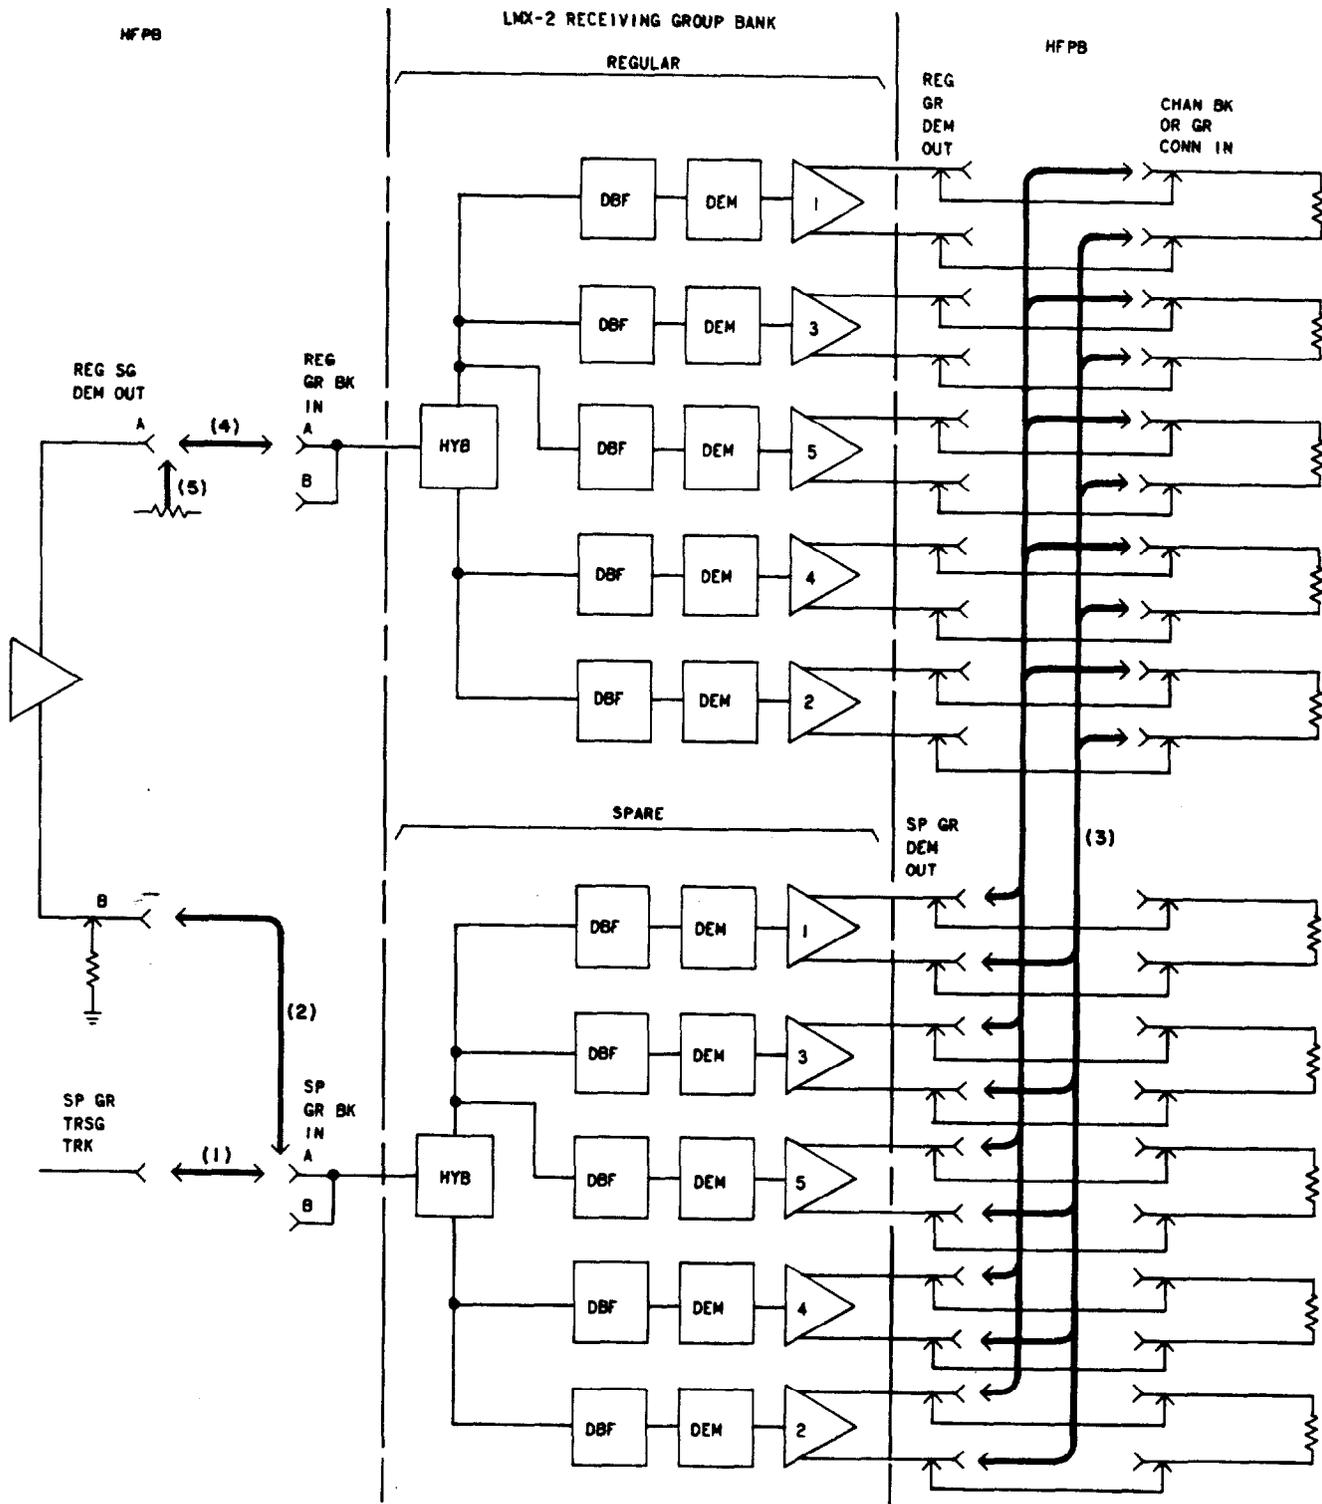
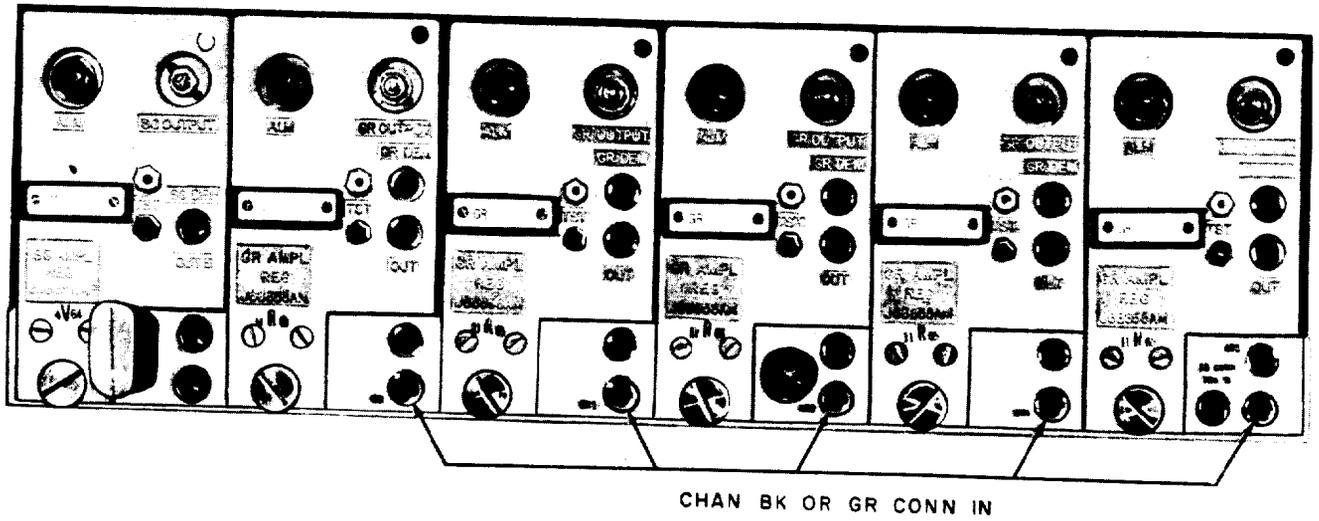

Fig. 2—Removing Regular Receiving Group Bank from Service
Fig. 3—Receiving Supergroup and Group Bank Amplifiers
Removing Regular Group Bank From Service (Fig. 2)
- (a) Remove the patch between the SP GR TRSG TRK and SP GR BK IN A jacks [patch (1), Fig. 2]. (A major alarm occurs on SP GR BK because group pilots are removed.)
- (b) Connect the REG SG DEM OUT B jack to the SP GR BK IN A jack [patch (2), Fig. 2].
- (a) Connect the SP GR DEM OUT jacks to the associated CHAN BK or GR CONN IN jack for group 1 [patch (3), Fig. 2]. (See Fig. 3 for undesignated jack location.)
- (a) Remove the patch between the REG SG DEM OUT A and REG GR BK IN A jacks [patch (4), Fig. 2]. (A major alarm will occur on each REG working group.)
- (c) Terminate, into 75 ohms, the REG SG DEM OUT A jack [patch (5), Fig. 2].
Restoring Regular Group Bank To Service (Fig. 3)
- (a) Remove the 75-ohm termination from the REG SG DEM OUT A jack [patch (5), Fig. 2].
- (b) Connect the REG SG DEM OUT A jack to the REG GR BK IN A jack [patch (4), Fig. 2].
Note: Read each step completely. (See Fig. 3 for undesignated jack location.)
| | <p>(a) Remove the patch from the CHAN BK or GR CONN IN jacks for group 1 [patch (3), Fig. 2].</p> <p>Caution: Remove end of patch cord from REG CHAN BK or GR CONN IN first, and then from SP GR DEM OUT, or service outage will occur.</p> <p>(b) Verify continued service on group 1.</p> <p>(c) Remove the patch from the SP GR DEM OUT jack for group 1 [patch (3), Fig. 2].</p> |
| 15 | At the receiving HFPB, <p>(a) Remove the patch between the REG SG DEM OUT B and SP GR BK IN A jacks [patch (2), Fig. 2]. (A major alarm will occur on SP GR BK.)</p> <p>(b) Connect the SP GR TRSG TRK jack to the SP GR BK IN A jack [patch (1), Fig. 2].</p> |